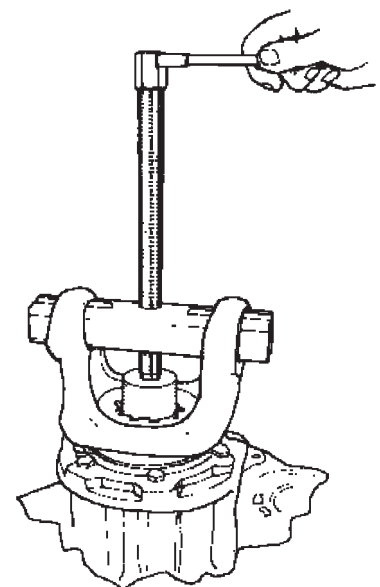

FIGURE 9
1. Remove puller screw from cross block assembly, and slide cross block into bearing bores. See Figure 9.